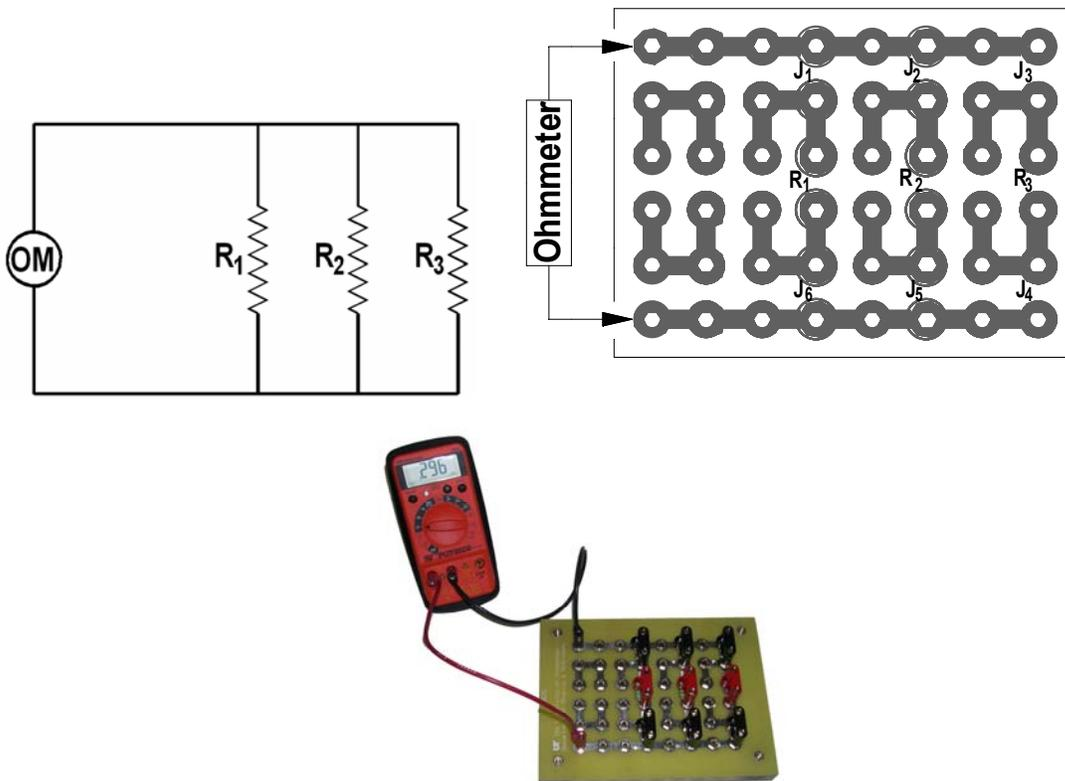
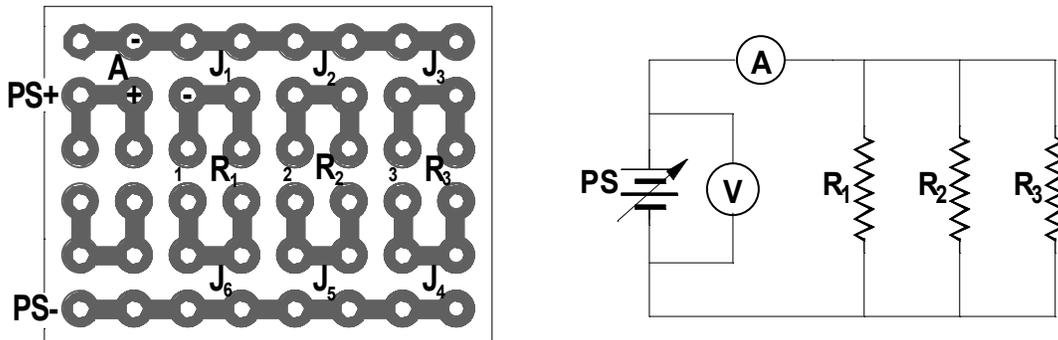

Figure 7. Schematic and wiring aid for measuring resistance of 3 resistors in parallel with an ohmmeter.
Figure 8. Wiring aid and schematic for measuring current versus voltage for 3 resistors in parallel.
1. Connect only the jumpers and resistor #'s 1, 2, and 3 in parallel as shown in the schematic and wiring diagrams of Figure 7. Connect the ohmmeter as shown to measure the total resistance of the 3 resistors connected in parallel. Record this value in your spreadsheet. Note the value as compared to the values of the single resistors and the sum of the 3 resistors.
2. Use your 3 resistor values from your ohmmeter measurements and Equation (20) to calculate the total resistance of your 3 resistors connected in parallel. Enter your result in your spreadsheet and compare it with the measured value. Compute the percent difference between the measured and calculated values.
3. Connect the power supply, ammeter, and voltmeter to the 3 resistors in parallel as shown in the schematic and wiring diagrams of Figure 8. Notice the position of the ammeter and the positions of the jumpers.
8. Use your 3 resistor values from your 3 slope measurements and Equation (20) to calculate the total resistance of your 3 resistors connected in parallel. Enter your result in your spreadsheet and compare it with the measured value of slope. Compute the percent difference between the measured and calculated values.
10. Add trendlines to the 4 plots of current versus voltage and record your values of $\frac{1}{R}$ in your spreadsheet. Compare the sum of the values of $\frac{1}{R}$ for the 3 resistors ($\frac{1}{R_1}$, $\frac{1}{R_2}$, and $\frac{1}{R_3}$) with the value for the combination ($\frac{1}{R_T}$). Do your results agree with Equation (20)?
11. Derivation of Equation (20) was based on Equation (13). Verify Equation (13) by measuring the total current and the currents flowing through each resistor. To do this, wire the power supply, ammeter, and resistors in parallel as shown in Figure 8. Set the power supply at 5 volts and measure the total current, I_T , flowing to the 3 resistors. Record your results in your spreadsheet.